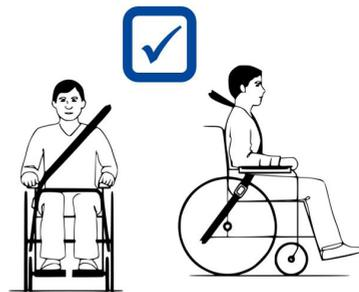

Figure 4
7. Make sure that the shoulder-belt restraints fit over the shoulders, see figure 4.